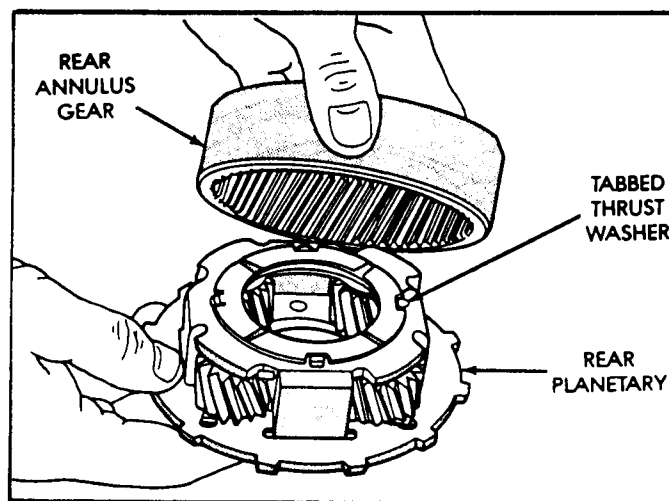

Figure 73
4. Install rear thrust washer on the rear planetary, as shown in Figure 73, and retain with Trans-Jel.
5. Install the rear ring gear and support over and onto the rear planetary and engage on planetary gears (Figure 73).